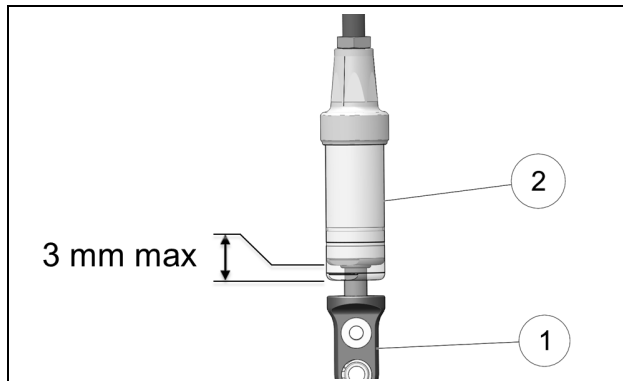

Figure 76
Check for excessive play between the Soft Strut's lower mount point (1) and body (2). If play is more than 3 mm, replace the Strut stem's inner urethane bushing. See Figure 76.